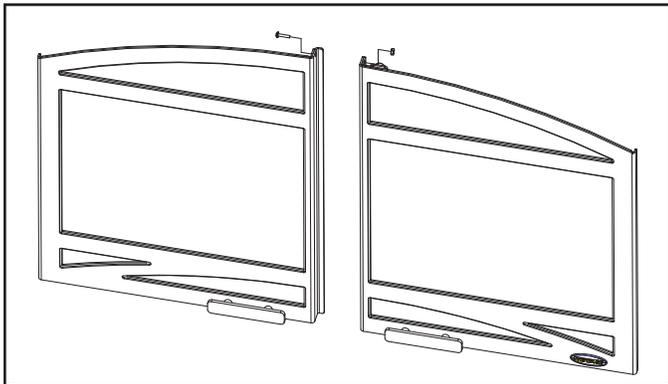

Figure 9
1. The decorative fronts are shipped with a child safety lock. To lock the decorative fronts, a Phillips screw driver and a 3/8 in. wrench will be needed. After hanging the decorative fronts on the surround, place the bolt through the back of the decorative fronts. The bolt goes through both decorative fronts in the middle at the top, and is retained by a nut to prevent them from operating. See Figure 9.